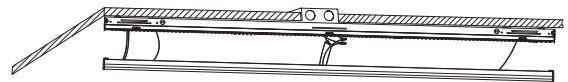

Figure 4
4. Make appropriate electrical connections by referring to the General Wiring Diagram in the driver compartment or through the junction box. (Figure 4).